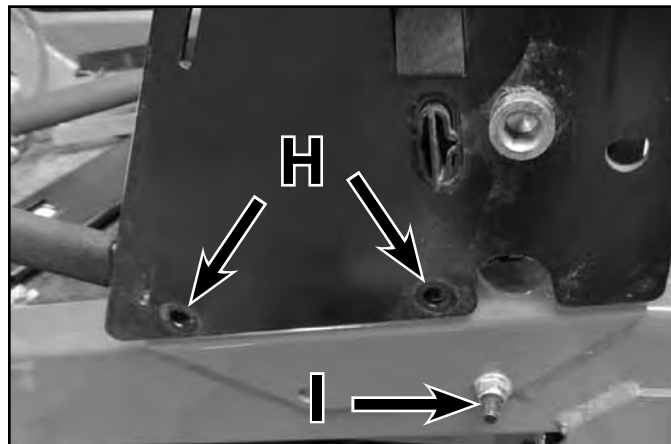

Fig. 025
2. Install the (6) fasteners securing the control box assembly to the frame and torque to specification:
- (H) (4) Bolts- 6 ft-lbs. (8 Nm)
- (I) (2) Carriage Bolt Fasteners - 17 ft-lbs. (23 Nm)(Fig. 025)